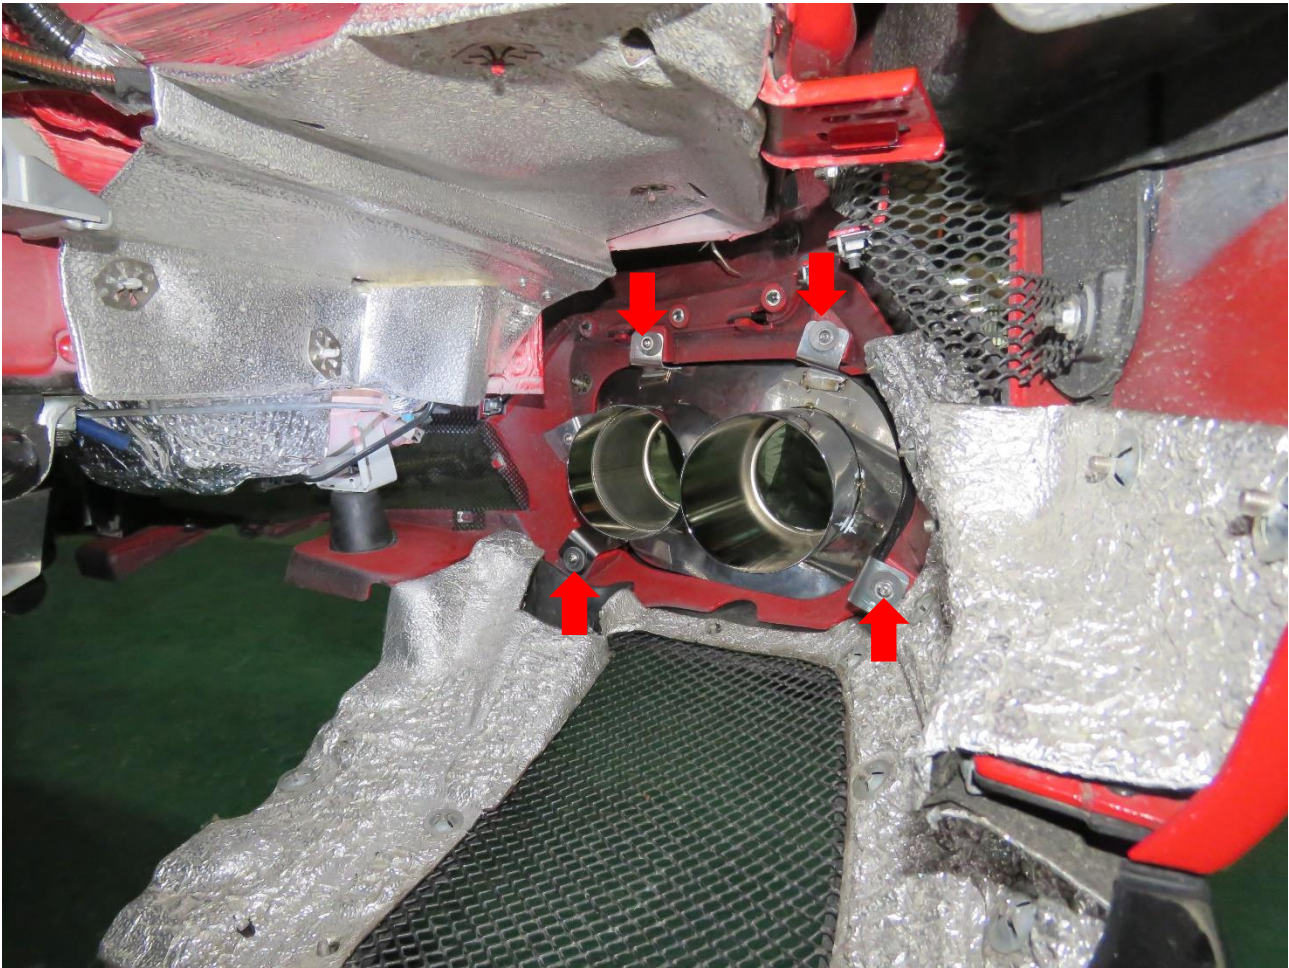

Fig. 13
4. Install the tips from the inside out, and then fix the screws (Fig 13)